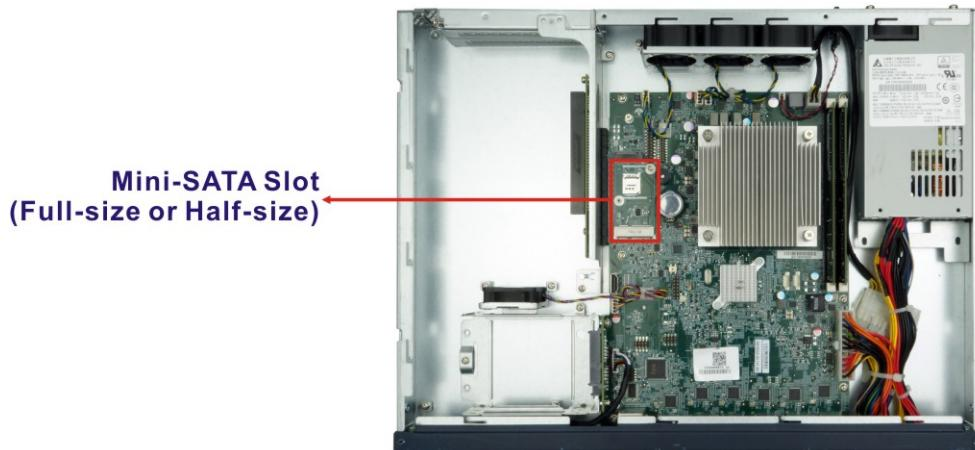

Figure 3-11: Mini-SATA Slot Location
Step 2: Locate the Mini-SATA slot on the motherboard (Figure 3-11).